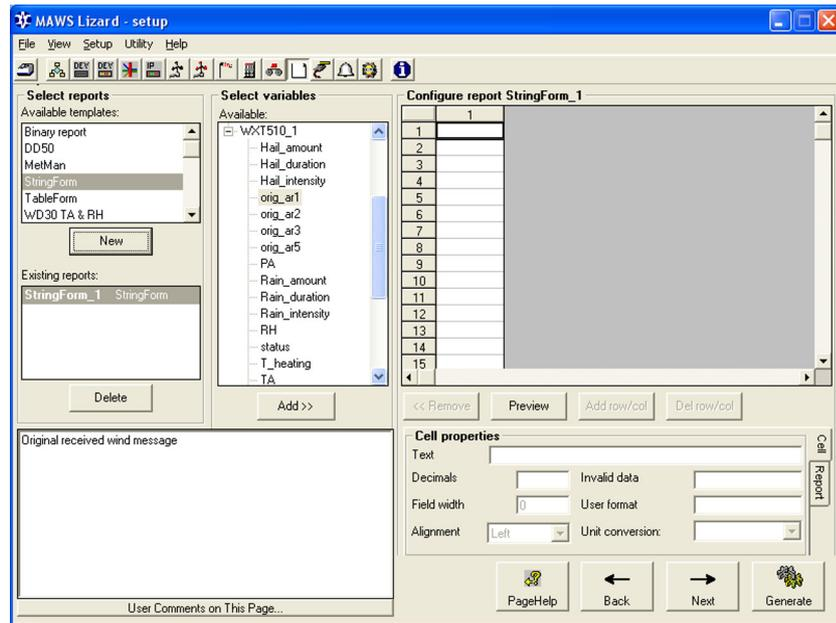

Figure 27 Reports View: Checking Weather Transmitter Variables
1. Select the **Reports** view; see Figure 27 on page 66.